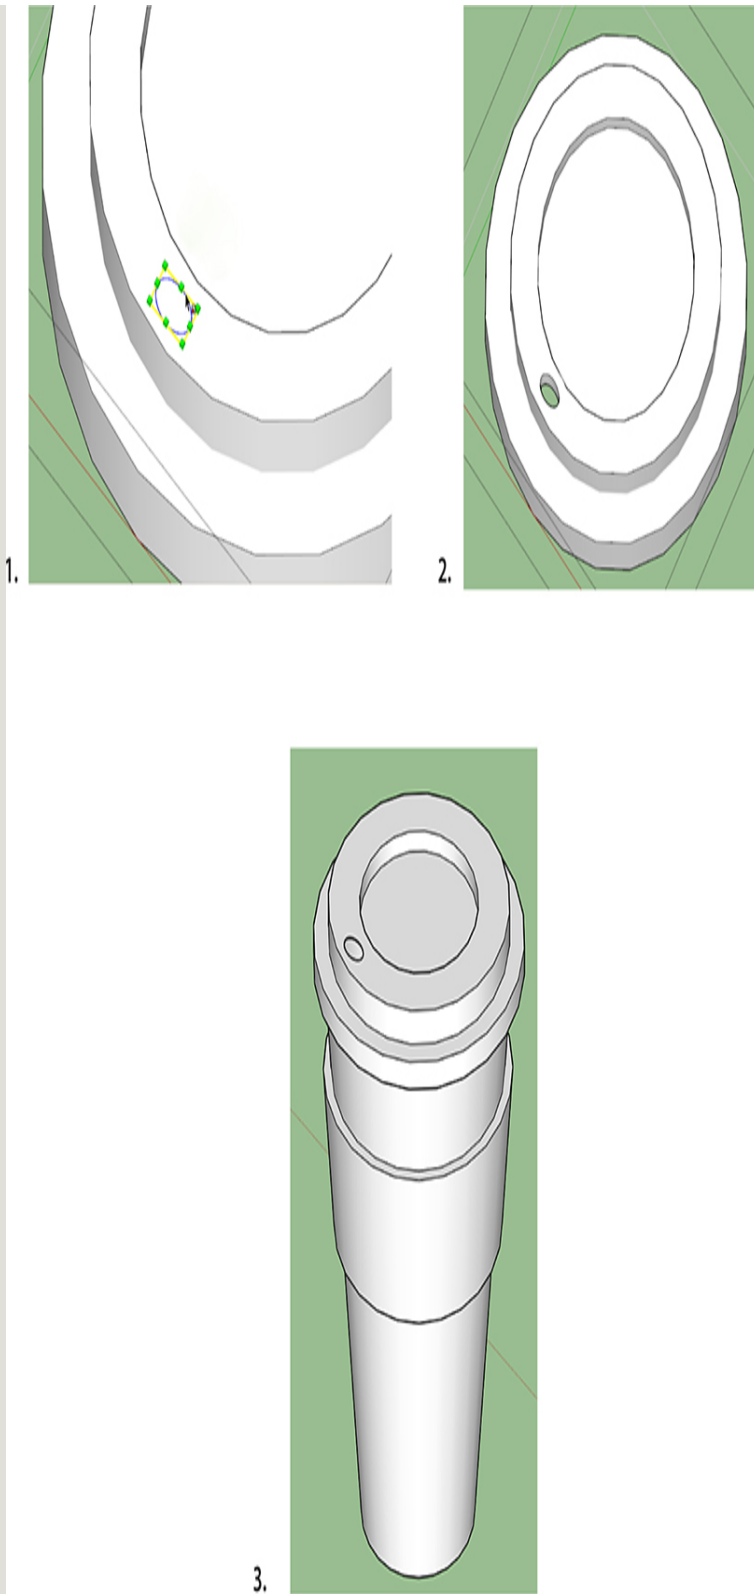

Figure 3-112 Add the sipping hole to finish the mug.
9. Add the sipping hole (Figure 3-112). Draw a circle on the middle ring. Warp it with the Scale tool, and push/pull it down. Click the Push/Pull tool onto the middle ring's bottom edge to make a clean hole; otherwise, it will extrude past the bottom. If you have difficulty doing this and the hole keeps extruding past the bottom, just select the excess, right-click, choose Intersect Faces with Model, and delete as needed. If a face remains, select and delete it, too.